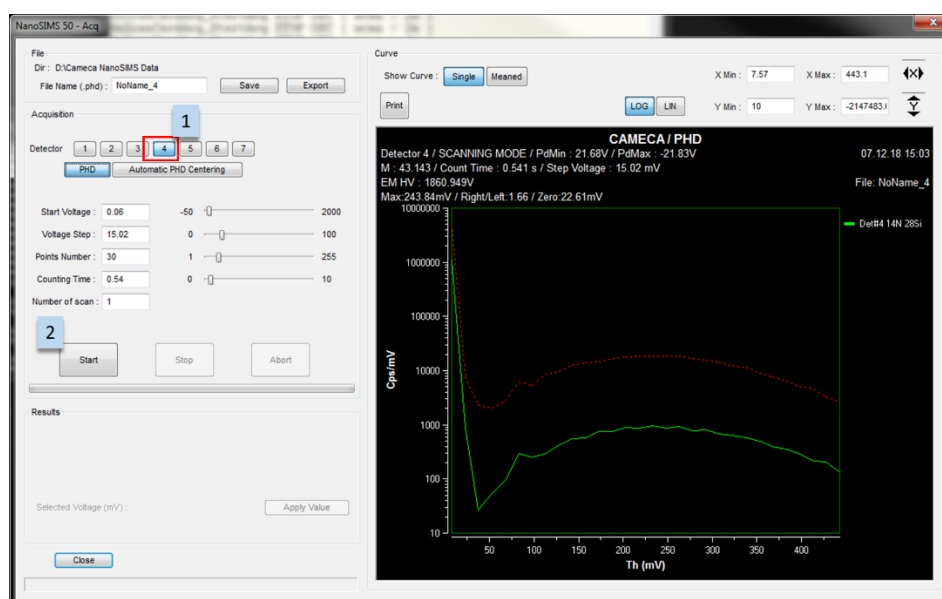

Figure 417: PHD scan
- Step 1 of Figure 417: choose the detector,